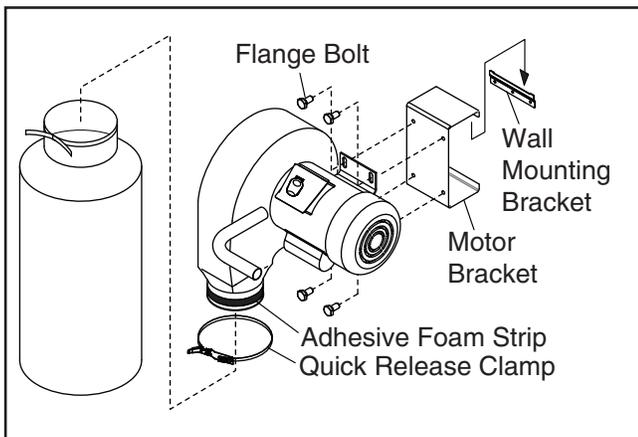

Figure 4. Dust collector assembly diagram.
1. Fasten the motor bracket to the motor base with the four included flange bolts, and install the adhesive foam strip on the dust collector outlet port at the location shown in **Figure 4**.
4. Install the dust collection bag with the quick release clamp (see **Figure 4**), and connect the dust collection ducting to the duct collector. Refer to **Collection System** for grounding requirements on the next page.